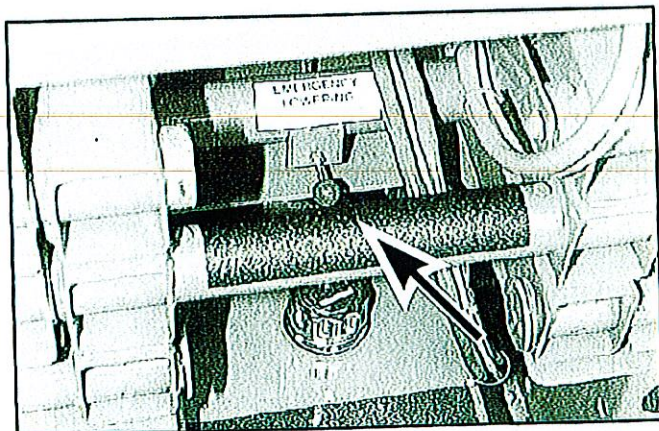

Figure 3: Emergency Lowering Valve Knob
15. Open the Chassis Emergency Lowering Valve (Figure 3) to check for proper operation, by pulling the knob out. When the platform is lowered, release the knob.
The Emergency Lowering Valve Knob is located between the scissors at the rear of the machine (Figure 3).